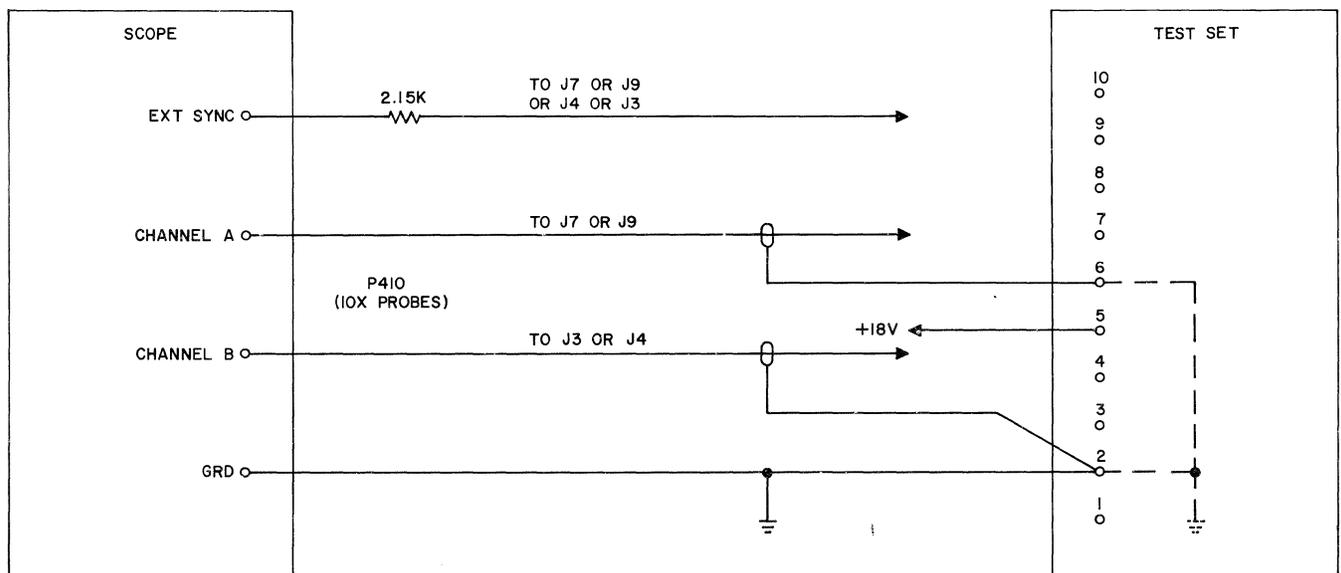

Fig. 7 — Complementary Flip-Flop Test
**10.05** Set up the test circuit as shown in Fig. 7. The scope EXT SYNC TRIGGER selector should be set to the (+) positive position.